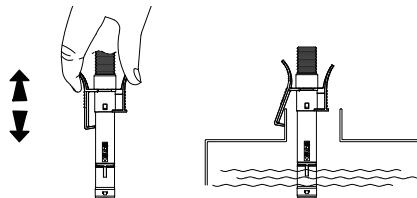

Fig.7
3. Attach the discharge hose to your receiving tank by the clip, and keep the discharge nozzle in a vertical direction tightly as shown in Fig 7.